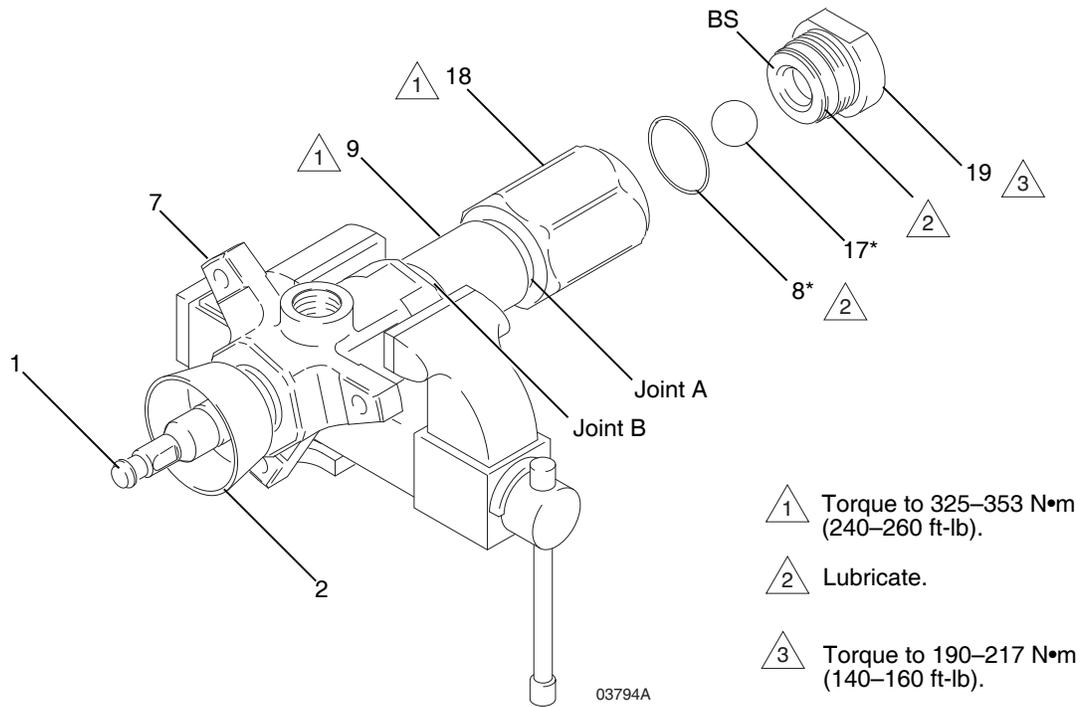

FIG. 3
1. Place the pump lengthwise in a large vise, with the jaws on the outlet housing (7) as shown in FIG. 3, page 15. Using the supplied wrench (110), loosen, but do not remove, the packing nut (2).
2. Apply a pipe wrench to the flats of the intake valve (19) from the intake housing (18). Be careful to catch the intake ball (17) as you remove the intake valve, so that it does not fall and suffer damage. Remove the seal (8) from the intake valve. Inspect the ball and the seat (BS) of the intake valve for wear or damage.
3. Apply a pipe wrench to the hex of the valve housing (18). The pump assembly may separate at joint A or joint B.
15. Place the intake ball (17\*) in the intake housing (18), then screw the intake valve into the intake housing hand tight.
16. Using a pipe wrench, torque the intake housing (18) to 325–353 N•m (240–260 ft-lb). This will torque both cylinder joints (A and B). See FIG. 3, page 15.
17. Using a pipe wrench, torque the intake valve (19) to 190–217 N•m (140–150 ft-lb). See FIG. 3, page 15.
18. Torque the packing nut (2) to 136–149 N•m (100–110 ft-lb).